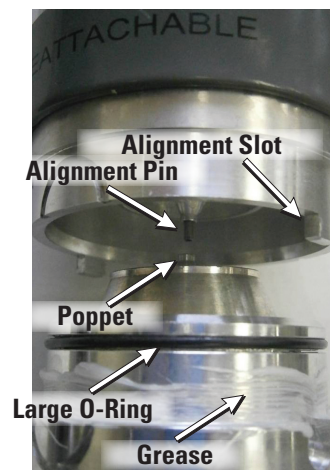

Figure 5: Align Poppet Pin from upper to lower half of breakaway and finish alignment
- b. Use the large O-ring provided in the repair kit to replace the outer O-ring on the curb hose side of the breakaway. See **Figure 5**.
5. Apply a liberal amount of lithium grease provided in the repair kit (VST-BRK-100) completely around the mating diameter surface of the curb hose side of the breakaway. The grease will need to cover the entire surface that will slide into the mating end of the breakaway. See **Figure 5**. **DO NOT USE** pipe dope or thread sealant.
that is connected to the nozzle end. Continue squeezing the trigger of the VST Breakaway Assembly Tool while guiding the alignment slots together to finish reassembly. See **Figure 5**.